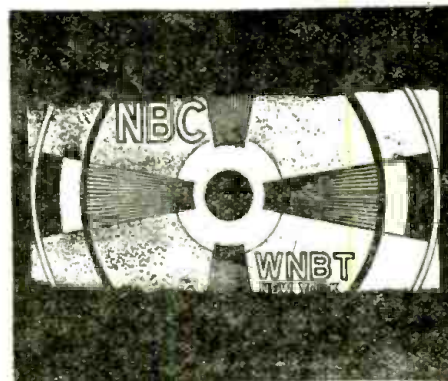

Fig. 6—Another pattern due to poor filtering.
a. *Poorly filtered low-voltage power supply.* Two stationary, wide black bars will appear across the screen accompanied by an audible hum from the loudspeaker. The low-voltage power supply is common to both systems. The cause will be traced to a defective filter condenser in the low-voltage power supply. (See Fig. 6.)